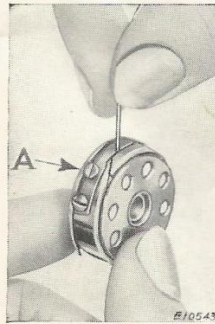
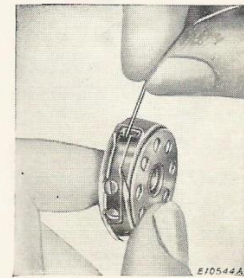

FIG. 9
FIG. 10
Then pull the thread into the slot as shown in Fig. 9, and back under the tension spring into the slot at the end of the tension spring as shown in Fig. 10.
The tension on the bobbin thread is regulated by the screw (A, Fig. 9) which is nearest the center of the tension spring on the outside of the bobbin case. To increase the tension, turn the screw (A) over to the right. To decrease the tension, turn this screw over to the left.